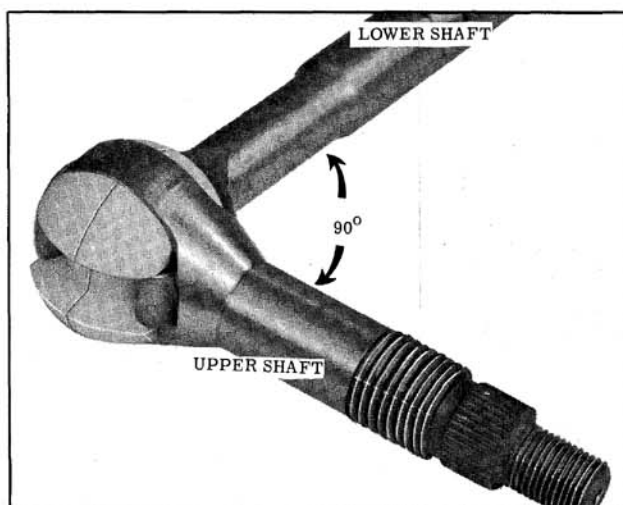

Fig. 8-110 Installing Sphere and Upper Shaft
2. Turn the sphere so the lower shaft can be installed over the flat area of the sphere (Fig. 8-110) approximately 90° from center line of lower shaft, then, install lower shaft socket over the sphere and straighten the shaft.